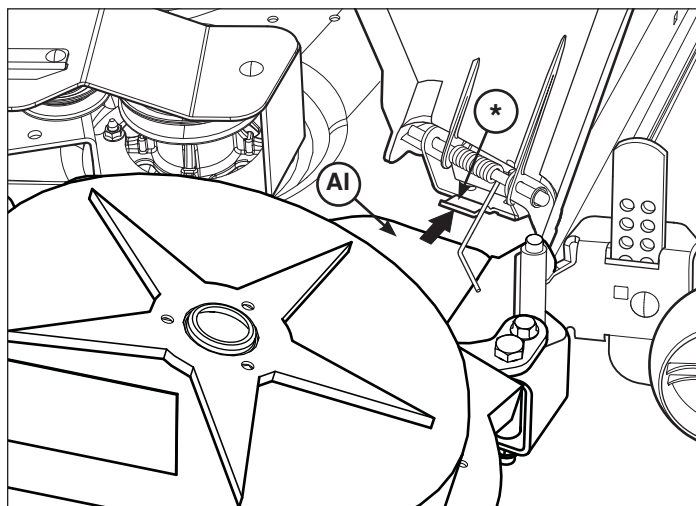

Figure 19
6. Rotate turbo assembly (AI, Figure 19) and insert corner underneath deflector bracket (*) as shown.